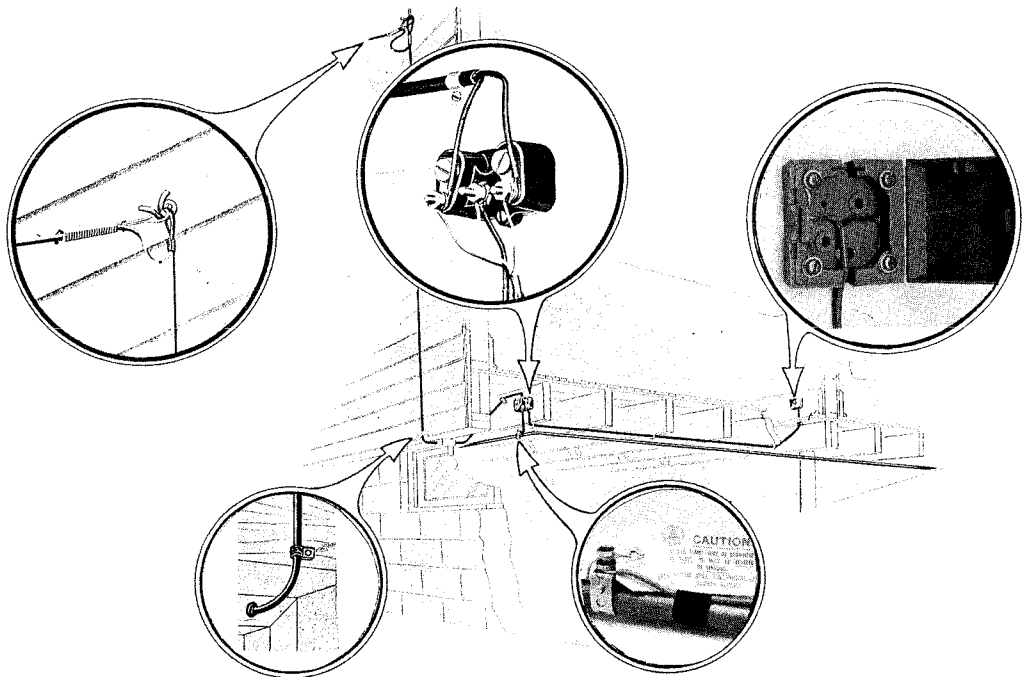

Fig. 1 — Typical Wiring Routes
1.03 Figure 1 shows the various points which should be considered in selecting routes for wires. Consideration should be given to the location of the telephone, protector, and ground clamp, as well as to the drop wire and point of entrance, before planning the wire route.